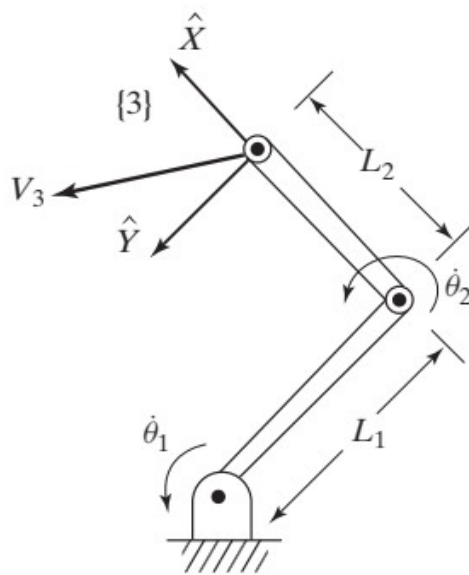

Figure Q2b
c) Figure Q2b. is a two-link manipulator with rotational joints; determine the velocity of the tip of the arm as a function of joint rates. Give the answer in two forms;